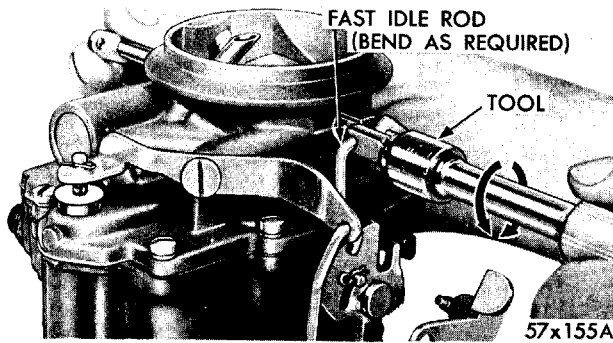

Fig. 24—Bending Fast Idle Rod
(5) If adjustment is necessary, bend the fast idle rod at the upper bend, as shown in Figure 24, until correct opening has been obtained. (Use Tool T-109-213.)